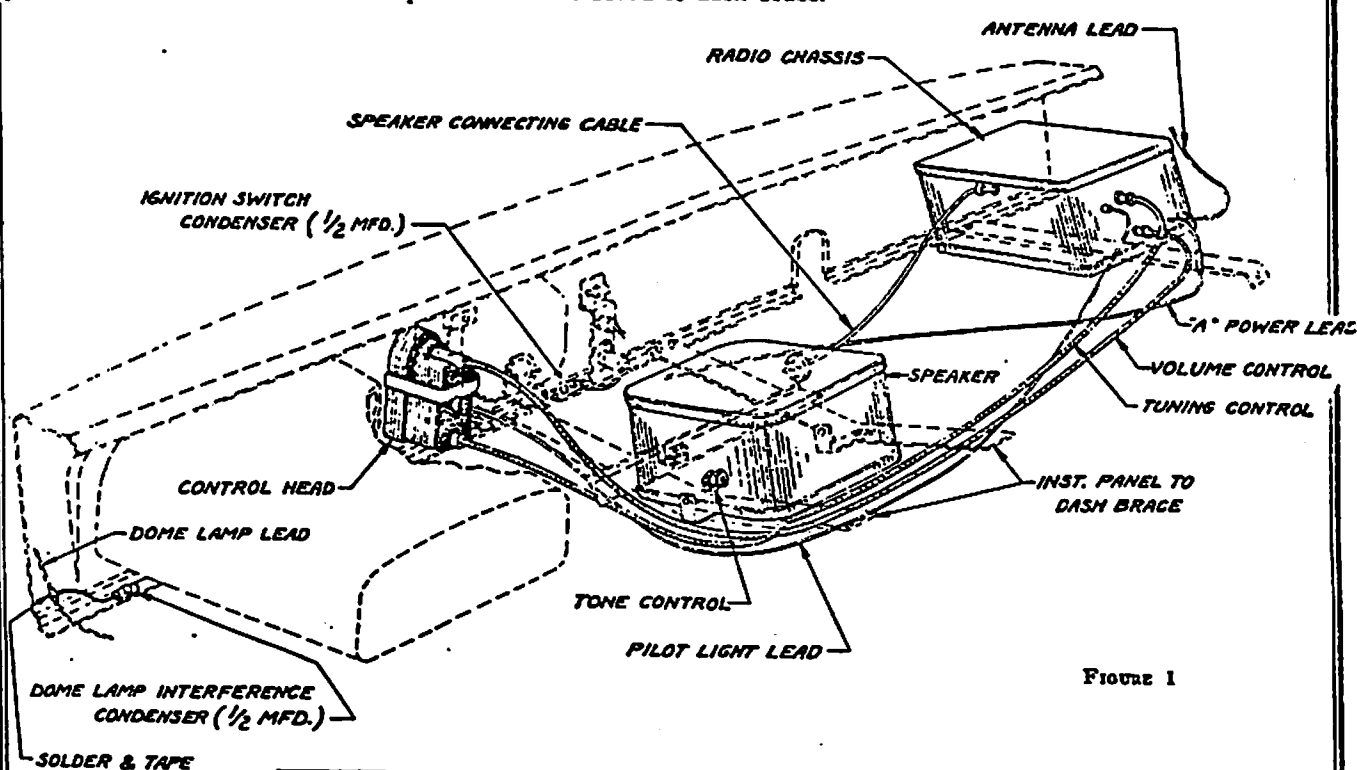

FIGURE 1
Receiver Installation (See Figure 1)
(See Figures 1, 3 and 3)
- 3 The volume control flexible shaft is at the top and must be coupled in the lower shaft housing on the end of the Receiver housing (see Figure 1). The knurled shaft nut must be tightened secure.
- 6 The tuning control flexible shaft must be coupled in the proper shaft housing on the end of the Receiver housing (see Figure 1). The knurled shaft nut must be tightened securely.
- 7 Connect the terminal on the pilot light wire in its receptacle on the end of the Receiver housing (see Figure 1).
- 8 Connect the antenna lead in its receptacle on the end of the Receiver housing (see Figure 1).
8. Ground the oil line and temperature indicator tube where they enter the dash under one of the ground cap screws with the No. 14 stranded wire (see Figure 1).
The tone control knob is on the right hand side of the speaker housing (see Figure 1). It should be adjusted to the tone most pleasing. There are four (4) positions: brilliant, bright, mellow and deep. Speech is clearest when in bright or brilliant, while usually orchestras will sound best on bright or mellow.